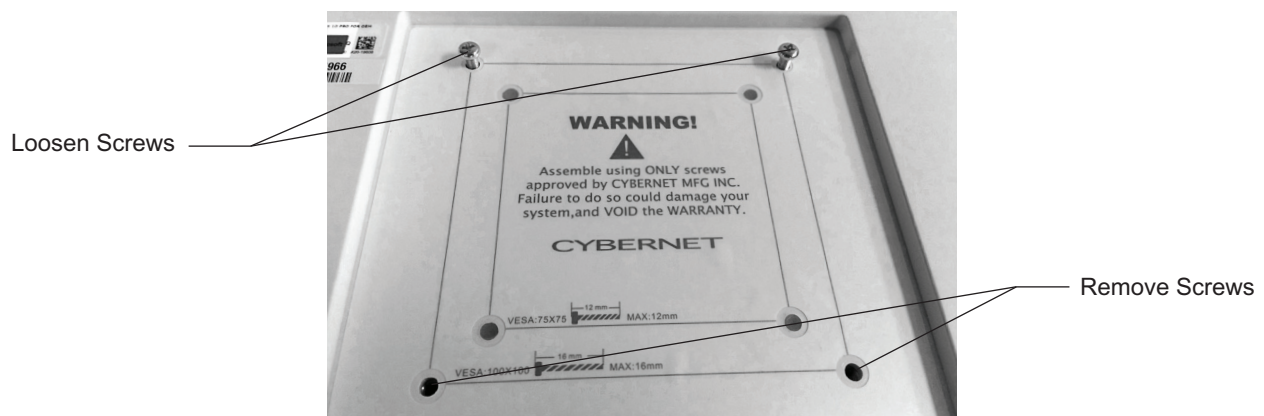

Figure 3: Location of Mounting Screws
3. Remove the two bottom Mounting Screws, and loosen the two top Mounting Screws on the mounting surface on the back of the Touchscreen PC. See Figure 3.